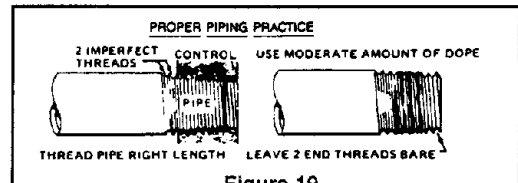

Figure 19
2. Do not thread pipe too far. Distortion or malfunction may result from excess pipe within the control valve. Apply a moderate amount of good quality dope to the pipe only. Leave the two end threads bare. (Figure 19). If L.P. gas installation, use a compound resistant to action of liquefied petroleum gases.